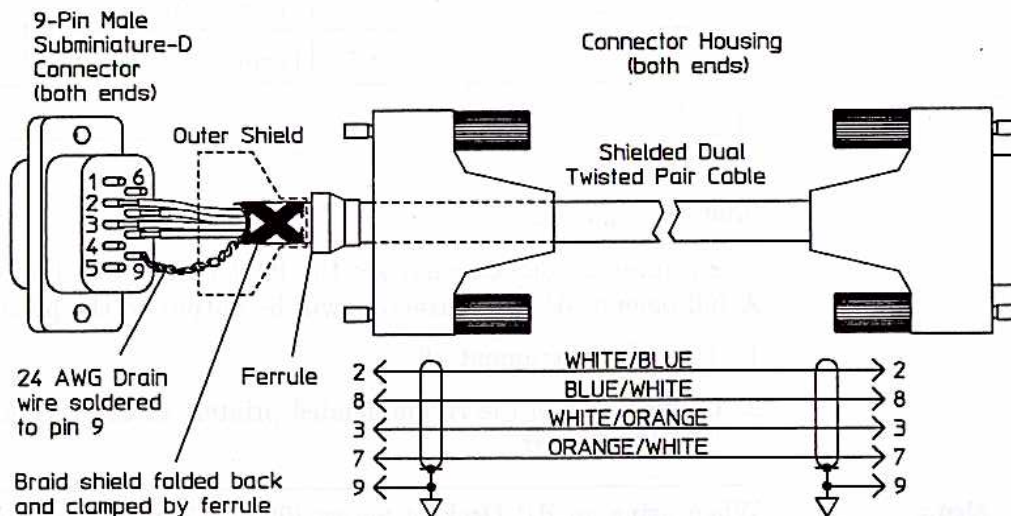

Figure 2-3. Serial Cable
2. Connect the "REMOTE FRONT PANEL" port to the "RS-422" port. Refer to Figure 2-3.
The cable shown in Figure 2-3 is verified to comply with the limits for a Class A computing device pursuant to Subpart J of Part 15 of FCC rules.